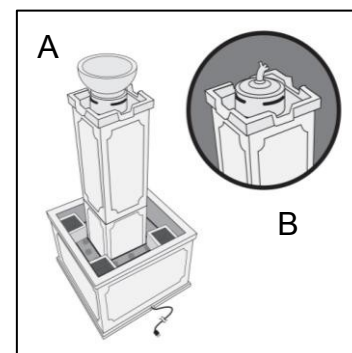

Fig. 10
10. Insert top decoration onto the tower of the fountain. Option A shows the planter bowl, which can be filled with plants, and Option B is the Fire torch. Fig.10.